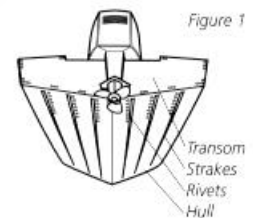

Figure 1
- It is very important to locate the transducer in an area which is relatively free of turbulent water. As a boat moves through the water, turbulence is generated by the weight of the boat, and the thrust of the propeller(s). This turbulent water is normally confined to areas immediately aft of ribs, strakes or rows of rivets on the bottom of the boat, and in the immediate area of the propeller(s) (Figure 1). On outboard or inboard/outboard boats it is best to stay at least 15" (40cm) to the side of the propeller(s).